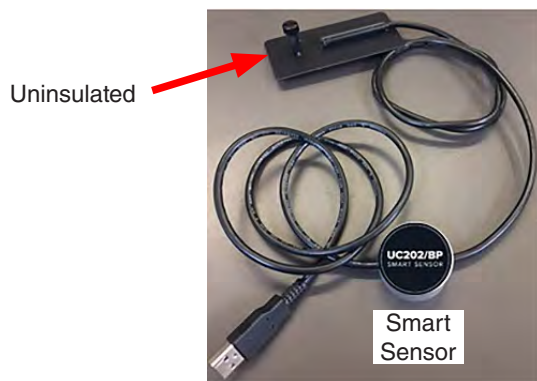

Figure 13.2a: UC202/BP Temperature Smart Sensor with Uninsulated Black Panel (Black Panel)
- Use the UC202/BP with uninsulated black panel (also known as "black panel"), Figure 13.2a.